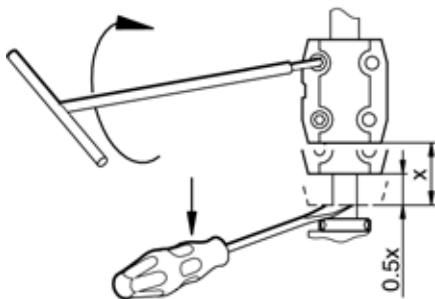

**Fig. 17** Coupling adjustment CRT 2, 4, 8, and 16
3. Using a large screwdriver, raise the pump shaft by placing the tip of the screwdriver under the coupling and carefully raising the coupling to its highest point. See fig. 17.